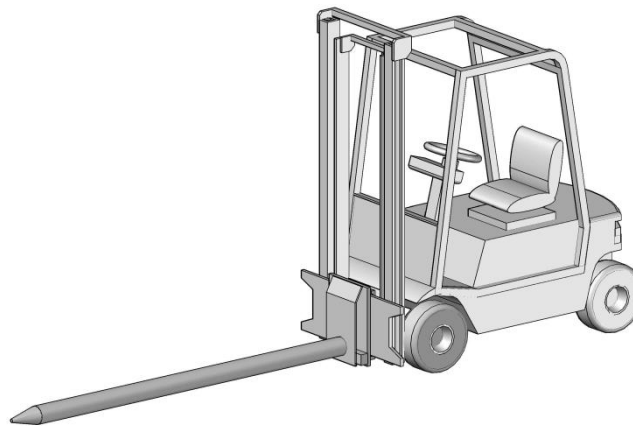

Fig. 2: Forklift with stinger
- A forklift with a pole length  $\geq 2/3$  the roll width (carpet stinger) (Fig. 2)